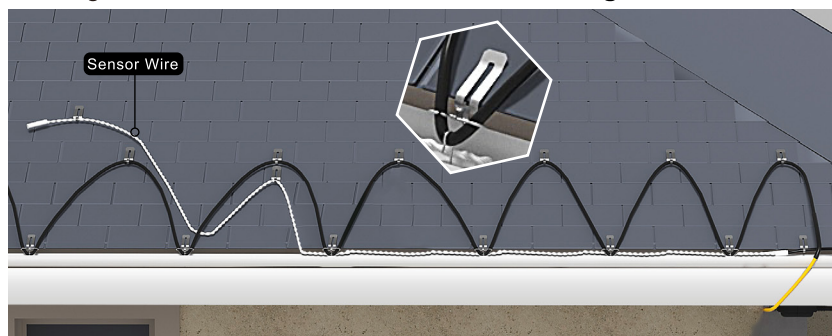

Fig.5
6. For Roof without gutter- Lay the sensor wire along the triangular weave of the heating cable as shown on Fig. 5 and secure the main housing under the eave of the roof as shown on **Fig.5.**